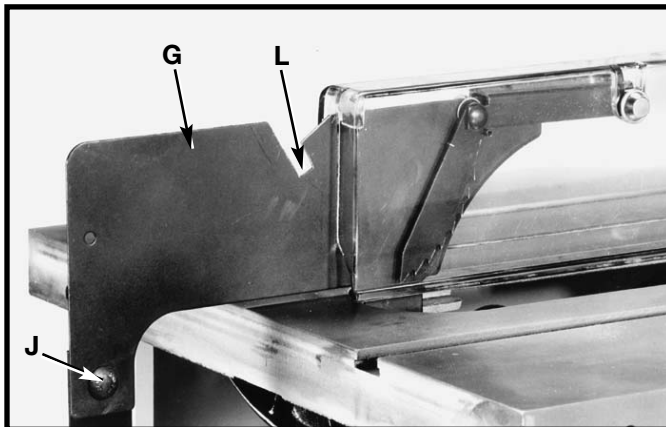
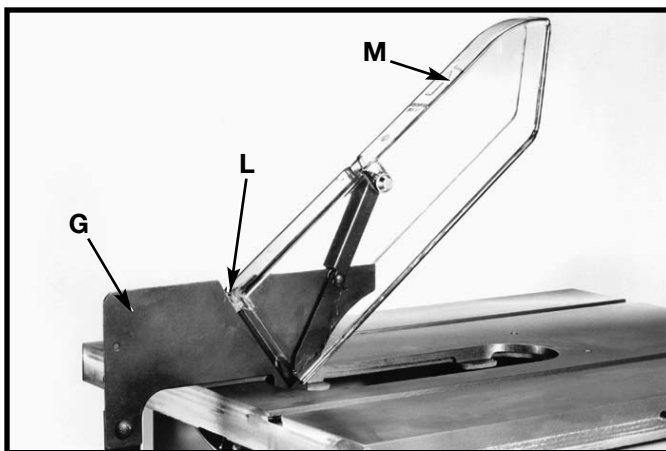

Fig. 29
Fig. 30
8. **Fasten** the rear of the blade guard and splitter bracket assembly (G) Fig. 29, to the rear splitter mounting bracket using 5/16-18 x 5/8" carriage bolt (J), flat washer, and 5/16-18 hex nut. Insert carriage bolt through splitter and mounting bracket, followed by the flat washer, then the hex nut. **IMPORTANT:** The splitter (G) Fig. 29, has a notch (L) cut in the top edge. This feature will enable the blade guard to stay in the raised position to make blade changing a little easier. Raise the front of blade guard (M) Fig. 30, until the rear edge of the blade guard slips into notch (L) of splitter (G); the blade guard will stay in this position.